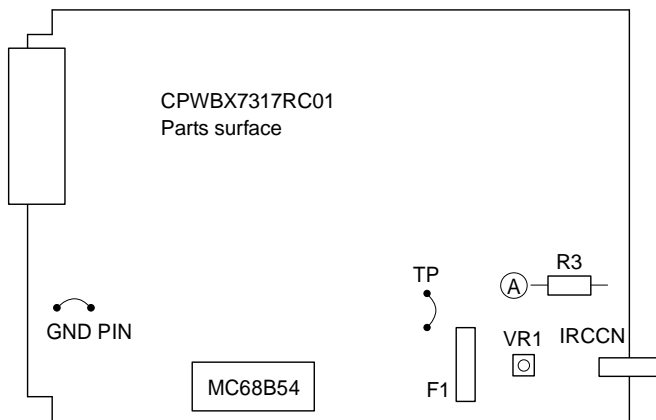
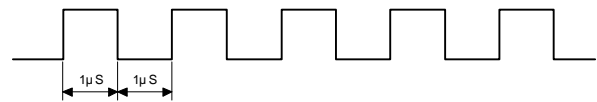

Fig. 6 Board location
Fig. 10 Waveform at TP (pin 1 of the 75115 IC in the receiver terminal)
With the receiver terminal adjust VR1 (5kΩ) on the ER-A6IN board until the waveform as shown in Fig. 10 is obtained at TP (pin 1 of the 75115). (For the location of VR1, see Fig. 6 Board location of this subsection).
Make sure that the voltage at the A-side lead of the R3 resistor (150Ω, 3W) shown in Fig. 6 is properly switched.
- Run the diagnostic program JOB#604, and make sure that the voltage at point A (in Fig. 6) is switched as shown in Fig. 10.